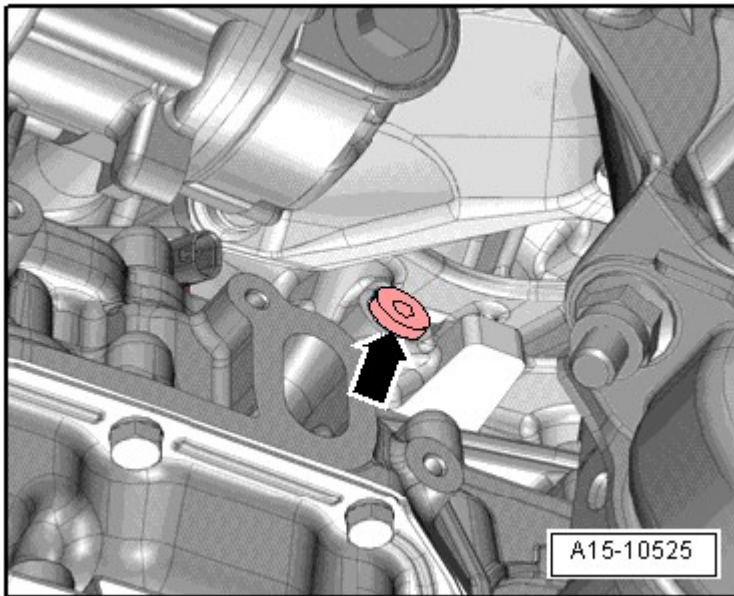

Fig. 98: Identifying Locking Bolt
- Tightening specifications CAMSHAFT TIMING CHAINS ASSEMBLY OVERVIEW, Fig. 98